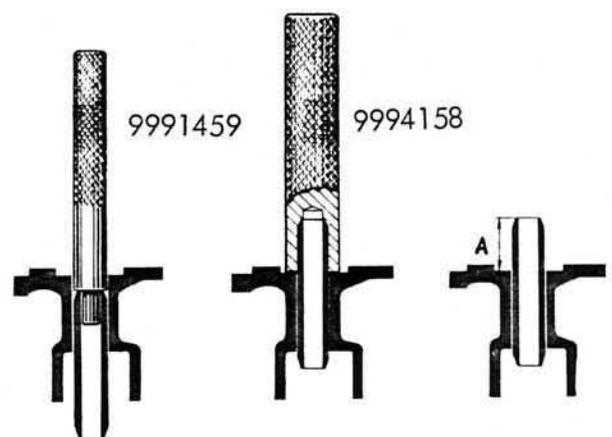

Fig. 12. Removing and fitting valve guides.
1. Press out the valve guides using tool number 9991459, Fig. 12.
2. Oil in the guides externally and press them in with tool number 9994158 which gives the guide the correct height above the cylinder head spring plane. After they are pressed in, the distance "A" should be 21 mm (0.83"), see Fig. 12.